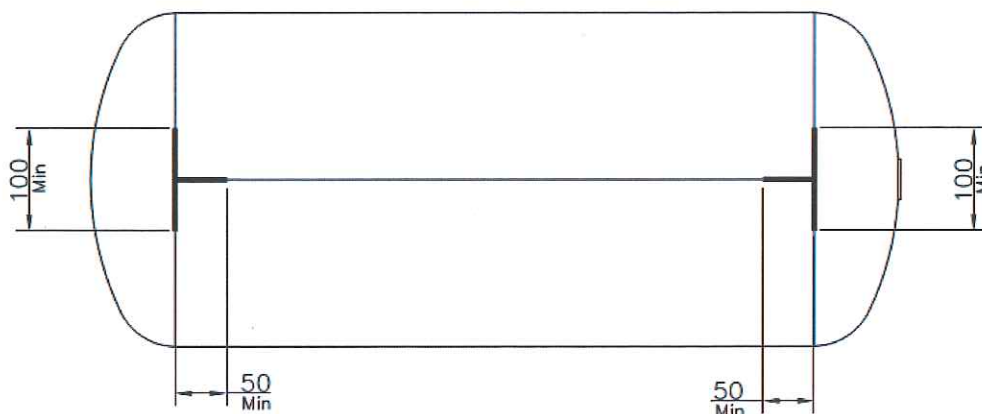

Fig 2. Minimum extent of radiography.
**Radiography:** Radiography (X-ray) of welds shall be in accordance with BS EN ISO 17636-1:2013 or EN ISO 17636-2:2013. A minimum of two X-rays should be taken to cover the two T-joints between the vertical and circumferential welds of the cylinder body. The minimum extent of radiography is shown in fig 2. Additional X-rays should be taken of any areas of concern identified during the visual examination. Shadowing on the circumferential welds created by the presence of the vertical dip tube is acceptable.